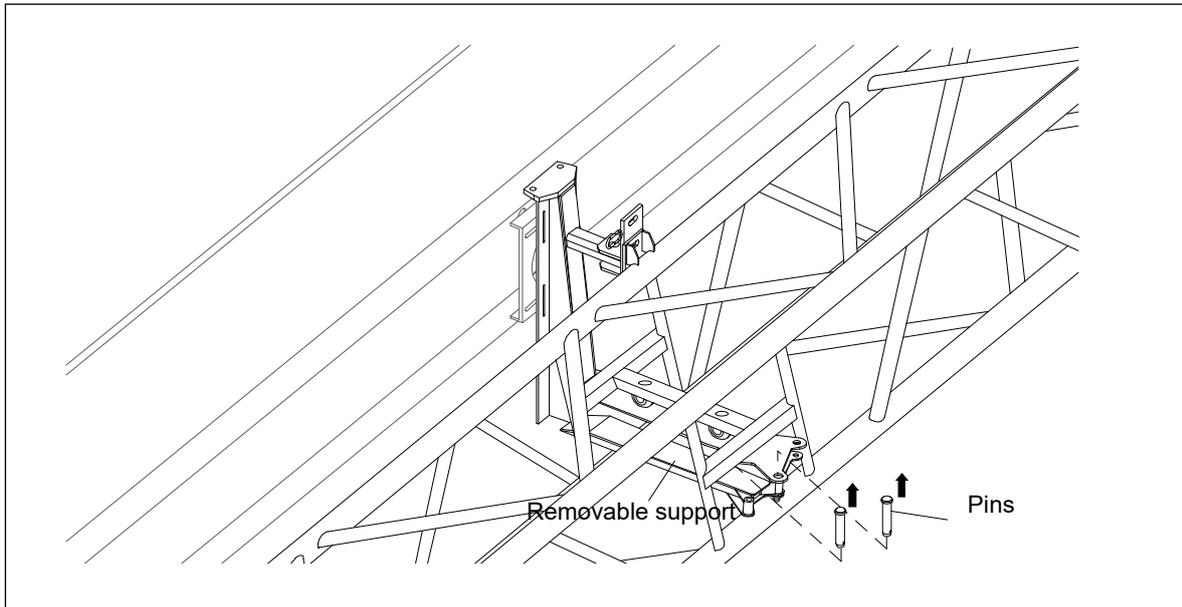

Figure 5-26 Removing the movable support
- a) Remove the two connecting pins and take the removable support from the extension's web member, as shown in Figure 5-26.